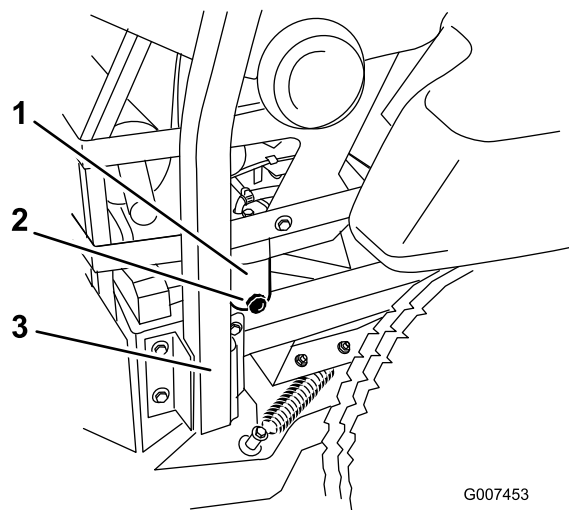

Figure 52
6. Open the drain valve on the water separator approximately one turn to allow water and other contaminants to drain (Figure 52).
7. Close the drain valve when only diesel fuel comes out (Figure 52).